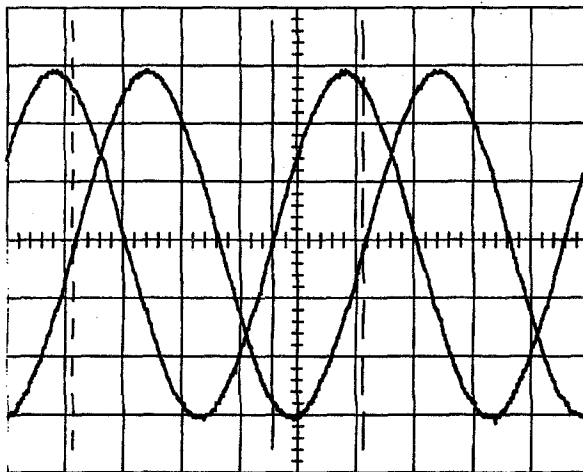

Figure 21
- Press on the CURSORS key (19) 4 times to select the phase measurement in area 4 on the screen.
- Position the two end cursors at the beginning and end of the reference signal period (figure 21).